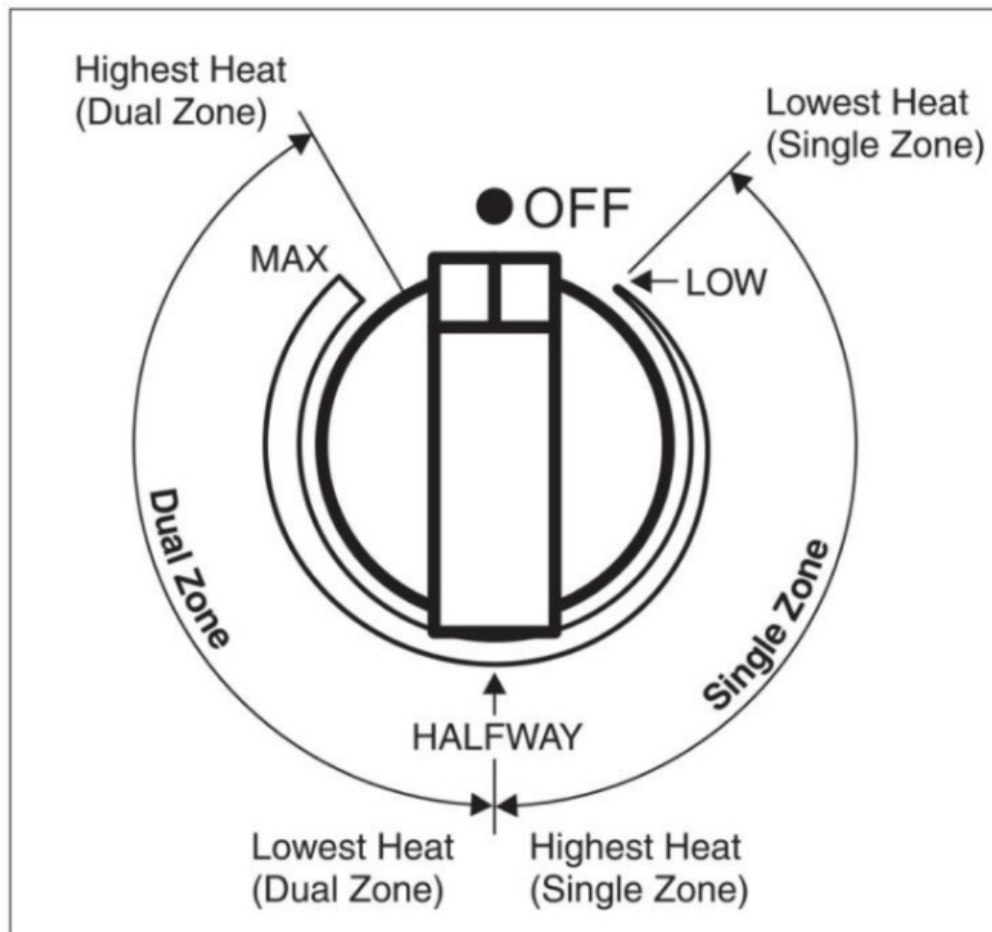

Figure 11
- Turn the control knob to the desired position (low to high). (See Figure 11)